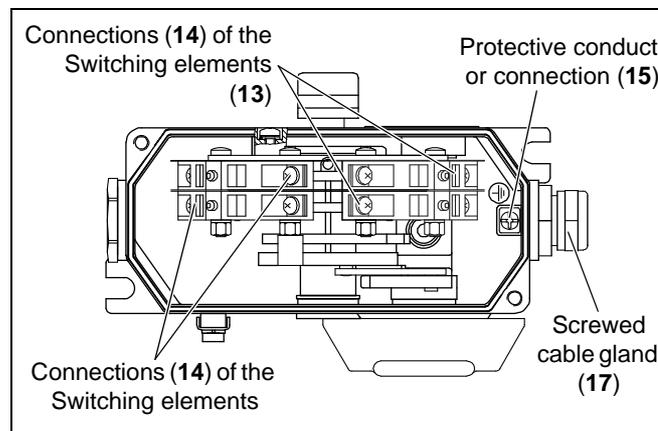

Fig. 5-11: Connecting the switch and protective conductor
3. Loosen the nut on the Screwed cable gland (17) and thread the connection cable (\varnothing 11.5 mm to \varnothing 15.5 mm) through it (see fig. 5-11).
4. Connect the protective conductor (max. 2.5 mm²) to the provided Connection (15) (see fig. 5-11).
5. Connect the conductors to the Connections (14) of the Switching elements (13) as described in the connection diagram inside the Cover (12) of the pull-rope emergency stop switch (see figures 5-11 and 5-12).
6. Tighten the nuts of the Screwed cable gland (17) with a **tightening torque of 6.7 Nm**.
10. Connect each potential equalization conductor with a cross-section of at least 4 mm^2 to the Potential equalization connections (26) on the Cover (12) and the Casing (25) (see fig. 5-11).